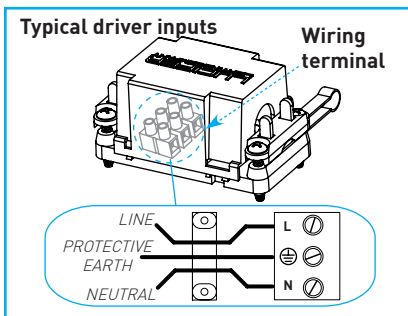

Fig.2
Driver assembly provides integral wiring terminal (*Fig.2*) and typically accepts 3 wires for connecting to the mains voltage: Black (Line / Hot / Switching), White (Common) and Green (Protective Earth Ground).
**Note:** Improper polarity may cause damage to the unit and can void the warranty. Consult wiring diagrams in Section J, joining structured building wires to corresponding driver terminals (*Fig.2*). Carefully raise finished power supply up through fitting aperture, and rest atop ceiling. (*Fig.3*)